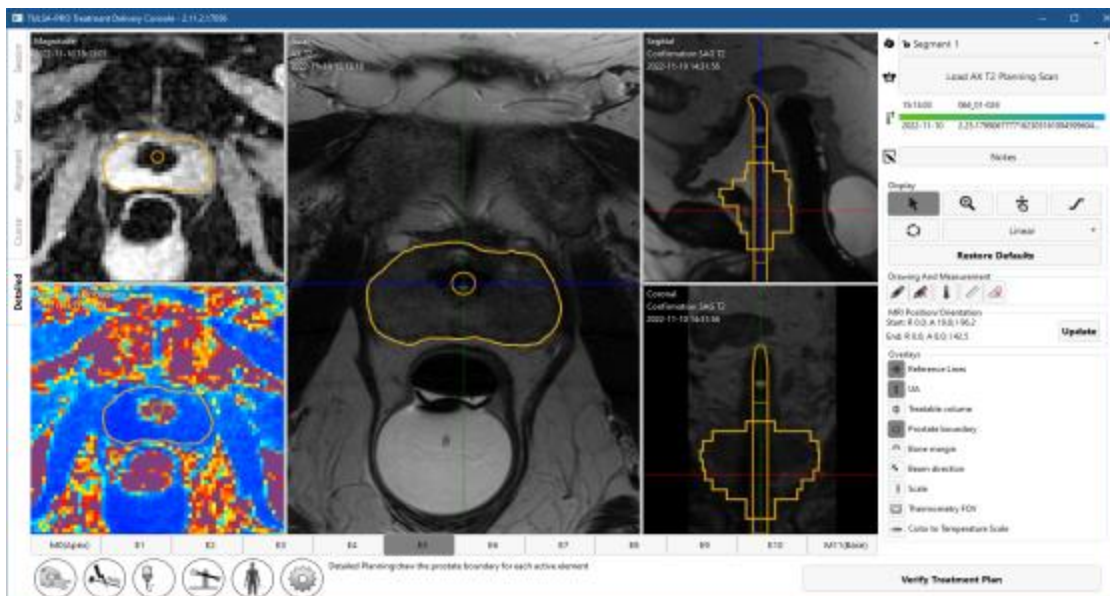

Figure 40: Detailed Planning after drawing boundaries
2. To draw the prostate boundary, select the drawing tool and outline the tissue to be ablated on each slice based on the corresponding AX T2 and THERM magnitude images (Figure 40). You can select individual slices by clicking on the numbered tab at the bottom of the screen or by pressing